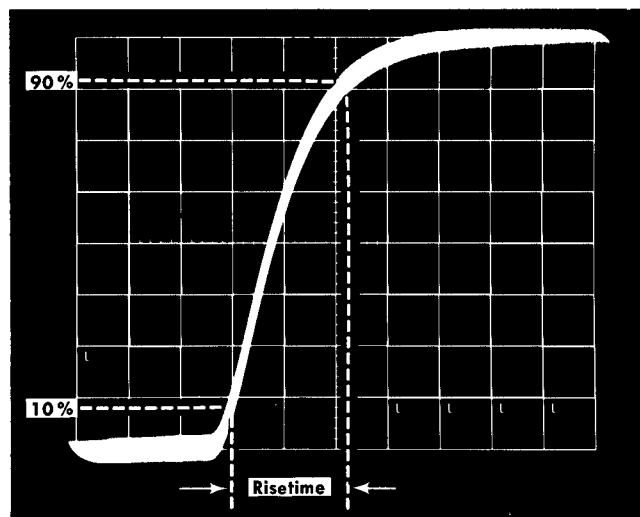

Fig. 6-24. Typical CRT display of risetime for step 17k.
- k. Measure the risetime from the 10% to 90% amplitude points. See Fig. 6-24. Risetime, \leq 3.5 μ s.